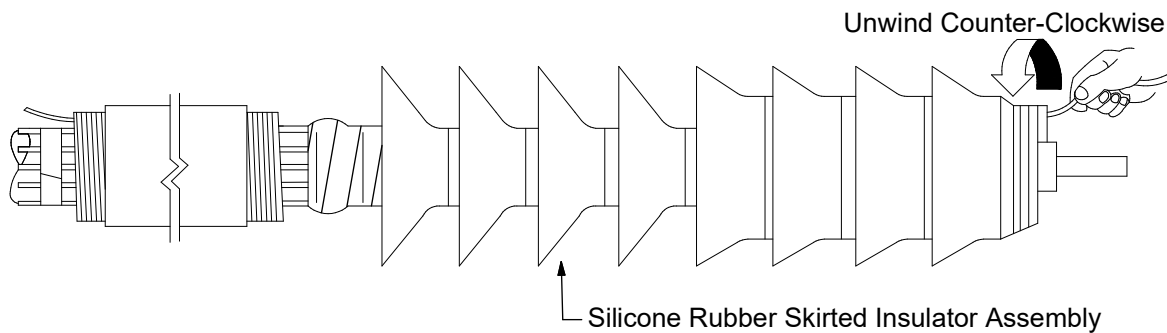

Figure 10
12. Slide the Silicone Rubber Skirted Insulator Assembly onto the cable. Align the assembly tube (not the core) with the sealing mastic/wire cover tape located 3.0" from the end of the cable semi-con, and remove the core by pulling the loose end while unwinding counter-clockwise. (Figure 10)